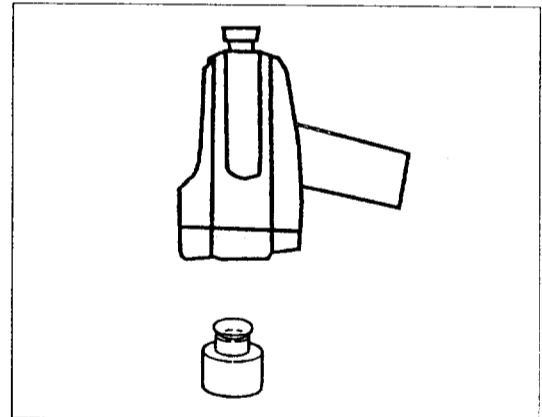

Figure 6-38
- (3) Using the normal kerato-measurement method, measure from the top. (Figure 6-38)